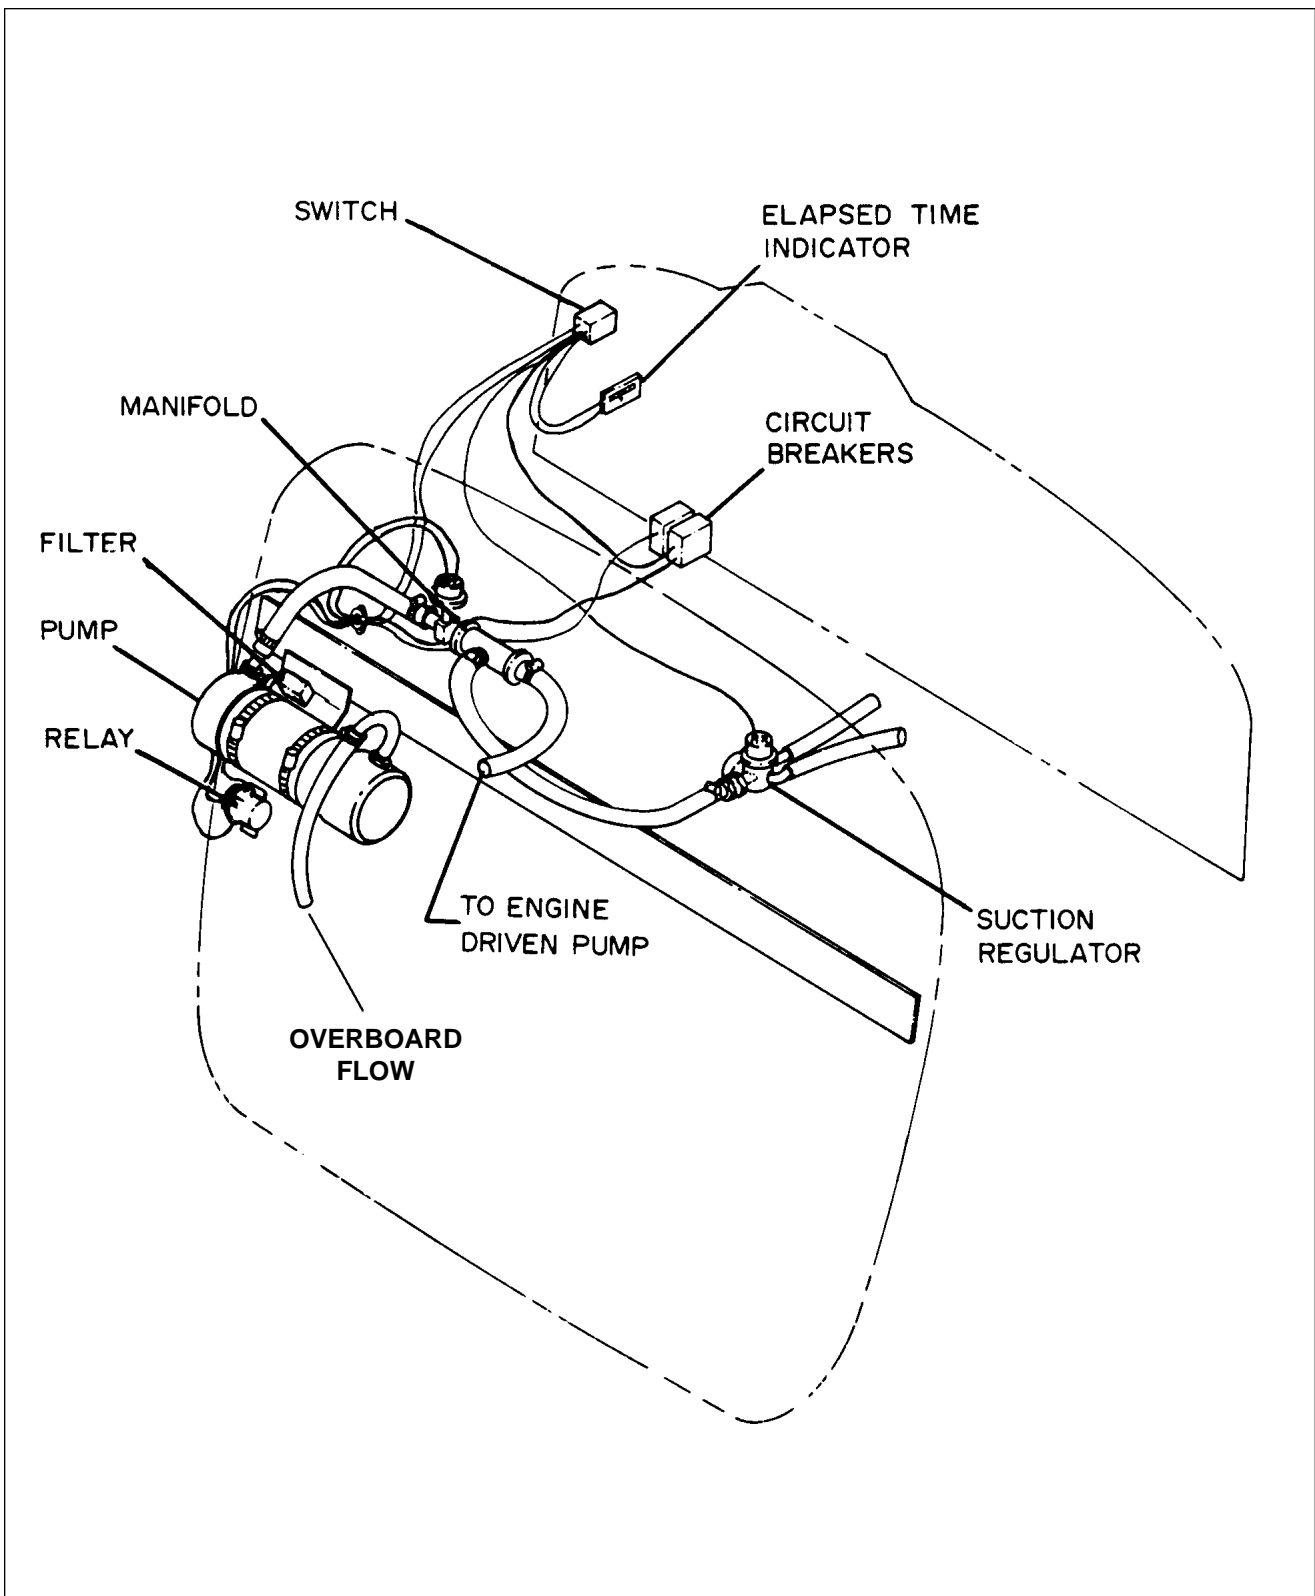

Figure 37-1. Archer II Auxiliary Vacuum Pump Installation
C. AUXILIARY VACUUM PUMP. (Archer II, serial numbers 28-8690001 to 28-8690056, and serial numbers 2890001 through 2890205 See figure 37-1.) (Archer III, serial numbers 2890206 and up.) (Refer to Figures 37-1 and 37-2)
- i. Position pump/motor assembly as per Figure 37-1 (Archer II) or 37-2 (Archer III).